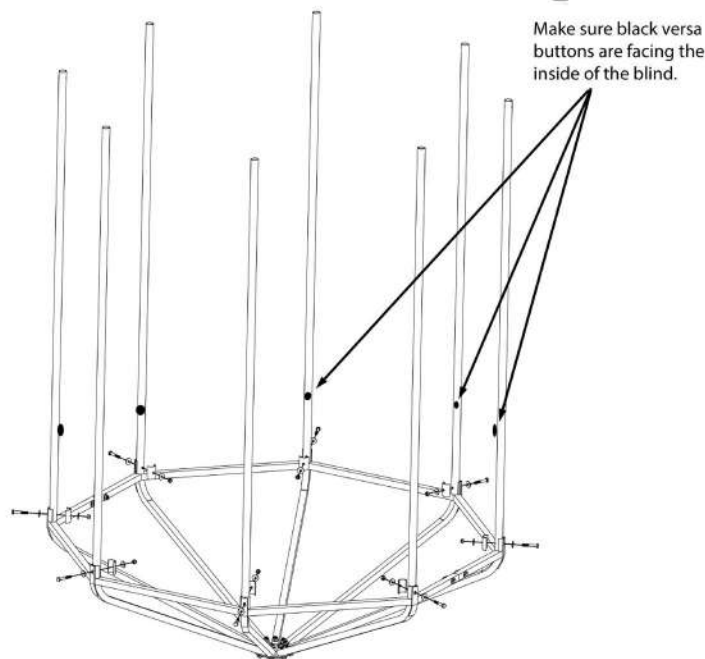

Figure 14-B
Step 14. Turn the roof assembly upside down and install the long uprights onto the roof assembly using eight $\frac{1}{4}$ x 1-3/4" socket head bolts, eight U shaped backer plates and eight nuts as seen in Figure 14-A. Make sure versa buttons are facing the inside of the blind as seen in Figure 14-B